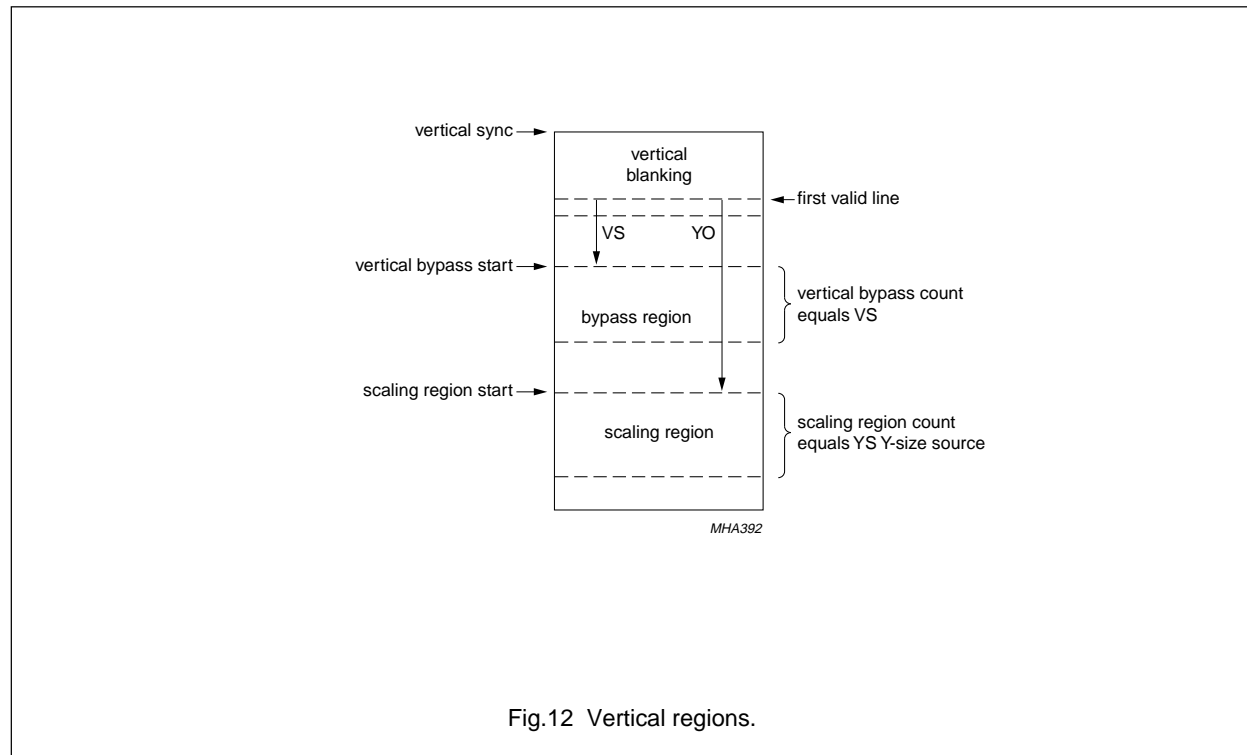

Fig.12 Vertical regions.
7.4.5.3 Vertical regions (see Fig.12)